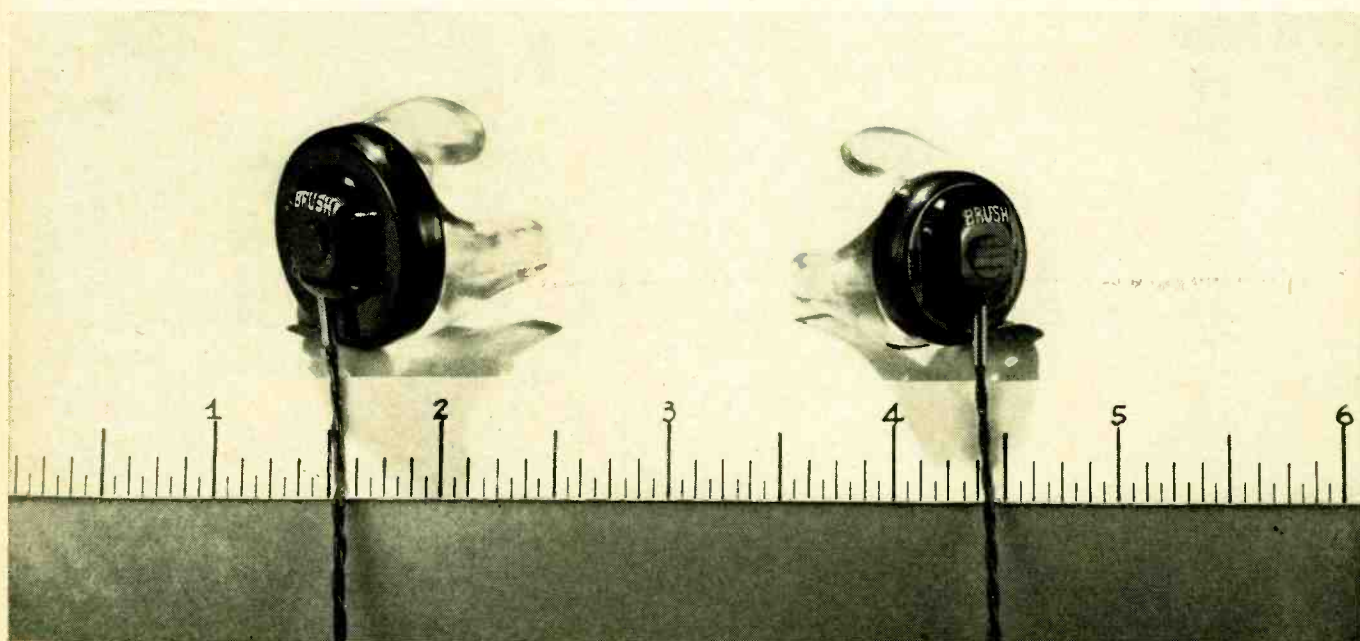

Fig. 6. Two sizes of miniature crystal earphones used for wearable hearing aids.
Fig. 6. An E radio wave approaching a reflector is partially transmitted and partially reflected. In (B) the incident wave is drawn in two parts to more easily show how the boundary condition is satisfied.
As we know from experience, it is by no means necessary to have a perfectly conducting surface in order to get a reasonable amount of reflected energy. We might well guess immediately that with a surface such as wood or a similar material, the reflection efficiency is reduced. E , H , B , and D may now exist within the material so all the wave is not reflected. Some is transmitted into the reflector material and either dissipated there or carried on through to a third medium. The situation at the surface necessary to satisfy our boundary conditions and still allow for partial transmission and reflection is illustrated in Fig. 6. As shown in Fig. 6-A it looks rather complicated but in Fig. 6-B the original incident wave has been split into two waves and one thought of as suffering complete transmission and the other complete re-
Also available are miniature crystal insert earphones (See Fig. 6) which are being widely used today for wearable type hearing aids and which are also applicable to pocket-type radios.